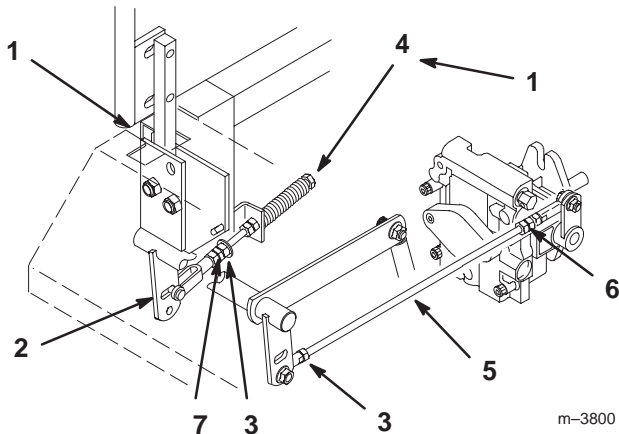

Figure 41
2. Begin with either the left or right motion control lever. Move lever to the neutral (but not locked) position and pull lever back until the clevis pin (on arm below pivot shaft) contacts the end of the slot (just beginning to put pressure on spring) (Fig. 41).
3. Check where lever is relative to notch in console (should be centered allowing lever to pivot outward to the neutral lock position) (Fig. 41).
4. Loosen locknut at ball joint on pump control rod (Fig. 41).
6. Adjust pump rod length by rotating double nuts on rod, in the appropriate direction, until wheel is still or slightly creeps in reverse (Fig. 41).